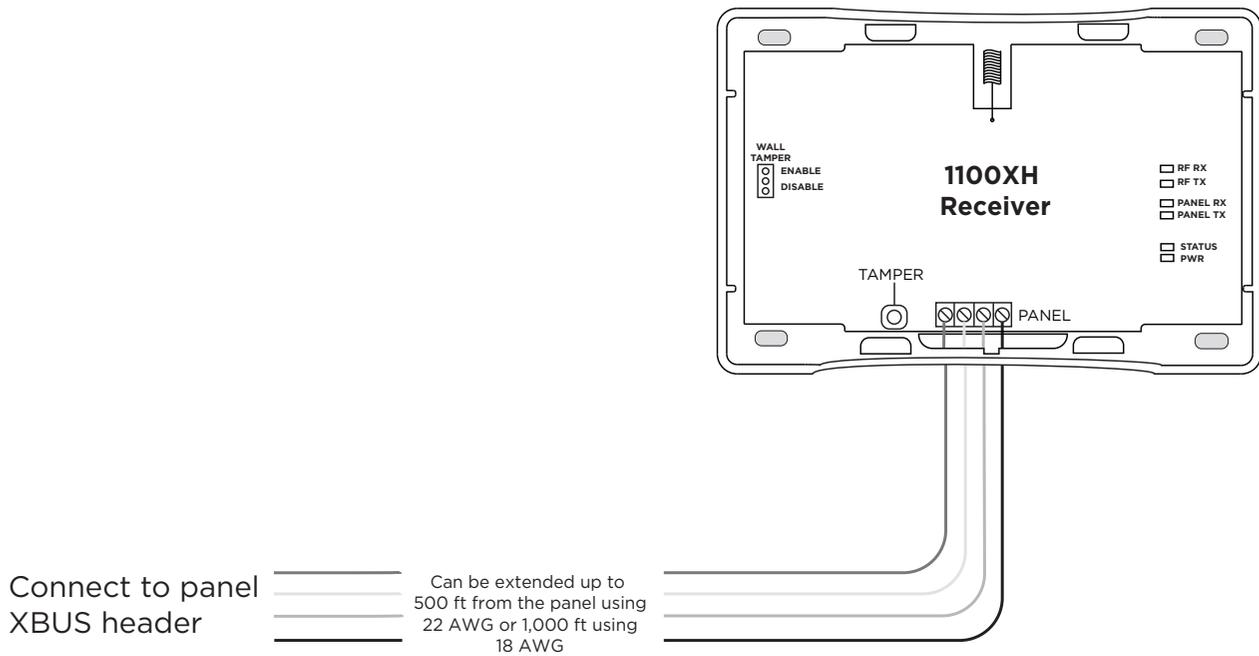

Figure 2: Wiring The 1100XH to the Panel
2. Connect the other end of the wires to the XBUS on the panel. See Figure 2.